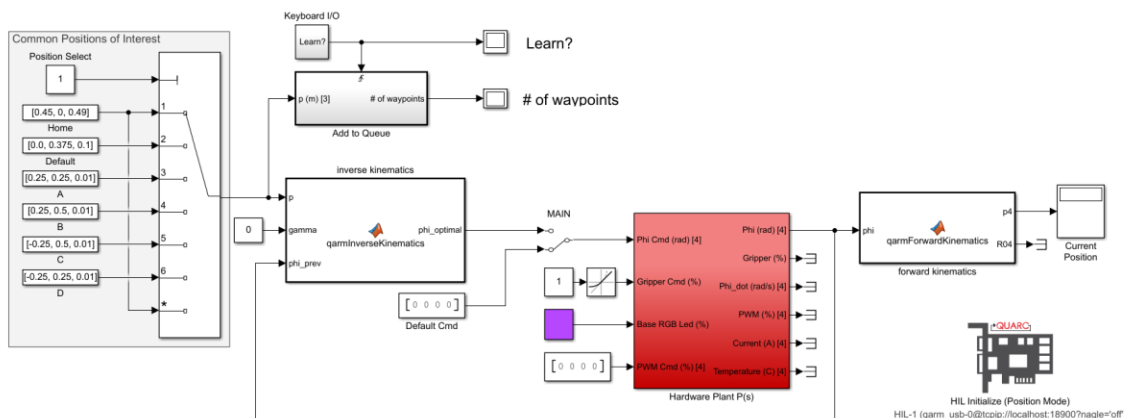

Figure 2.3: Simulink model *TeachPendant_Learn.slx*
- Open the Simulink model TeachPendant_Learn.slx (Figure 2.3). You will use this model to "teach" the Quanser QArm a series of waypoints that simulate a robotic assembly process. This model emulates the learning mode of a real teach pendant.